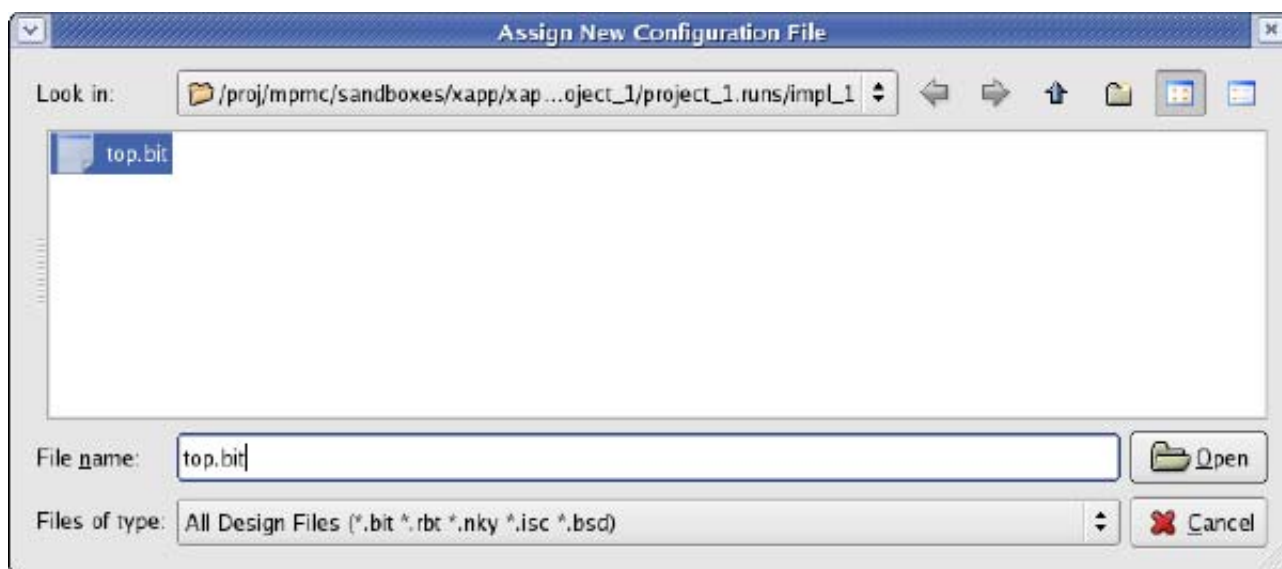

Figure 13: Assign New Configuration File Dialog Box
6. Browse to <design\_dir>/vivado/project\_1.runs/impl\_1, select top.bit, and click **Open** (Figure 13).